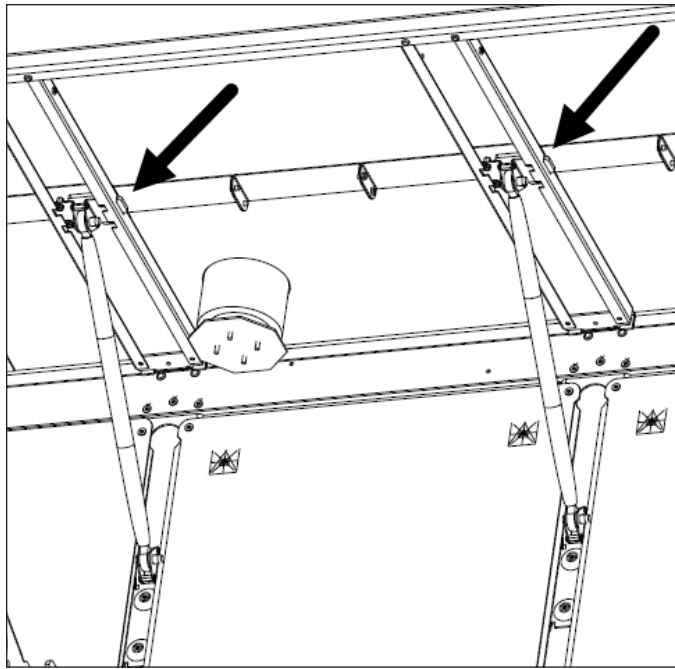

Figure 26: Ensure All Latches Engaged
10. Visually inspect each latch underneath the tabletop to ensure it is fully engaged. Refer to **Figure 26**. Apply firm pressure to the tabletop at each support location for additional verification that it is locked in place.